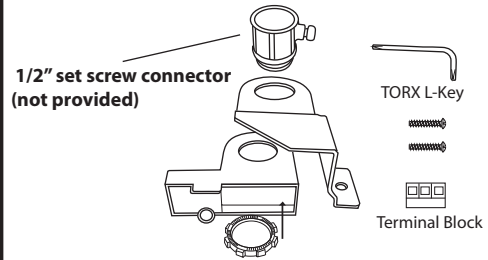

Fig. 71
- Feed wires through conduit adapter assembly. Then connect field wires to terminal block as shown in Fig. 71.